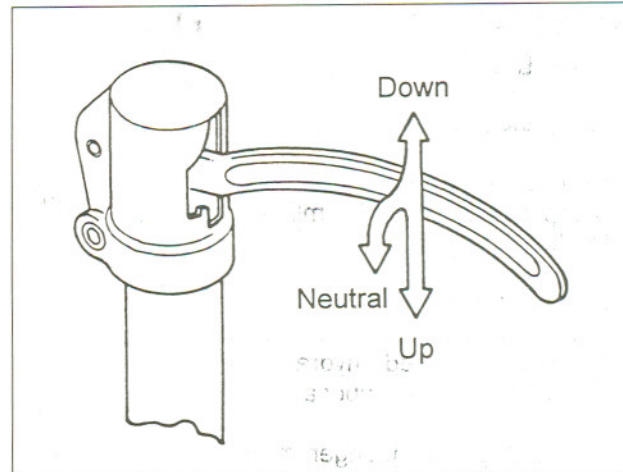

Fig. 5
1. Pull lever to the DOWN position (upper part of slot), Figure 5.
1. Set the lever in the NEUTRAL position, Figure 5.